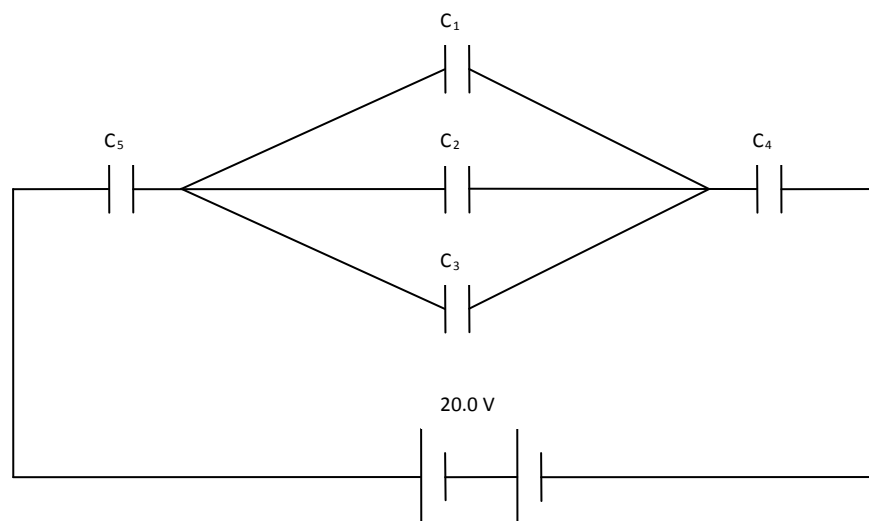

Figure 2
- b) The figure 2 below shows a combination of capacitors. If $C_1 = C_2 = C_3 = C_4 = C_5 = 30\mu\text{f}$.